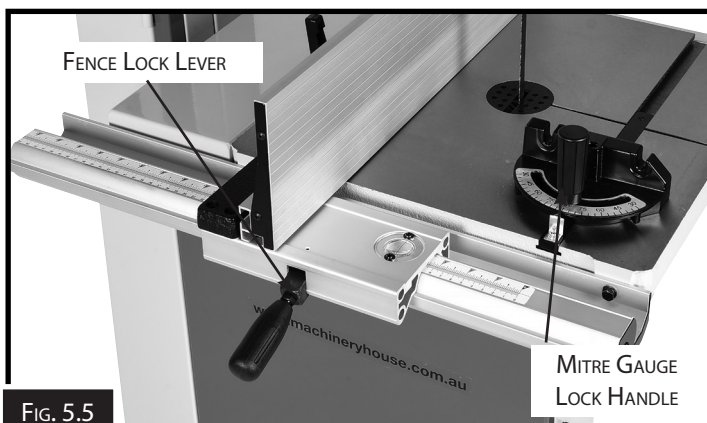

FIG. 5.5
**Mitre Gauge Lock Handle:** Locks the mitre gauge at the current setting. (Fig. 5.5)
**Fence Lock Lever:** Locks the fence at its current position. (Fig. 5.5)